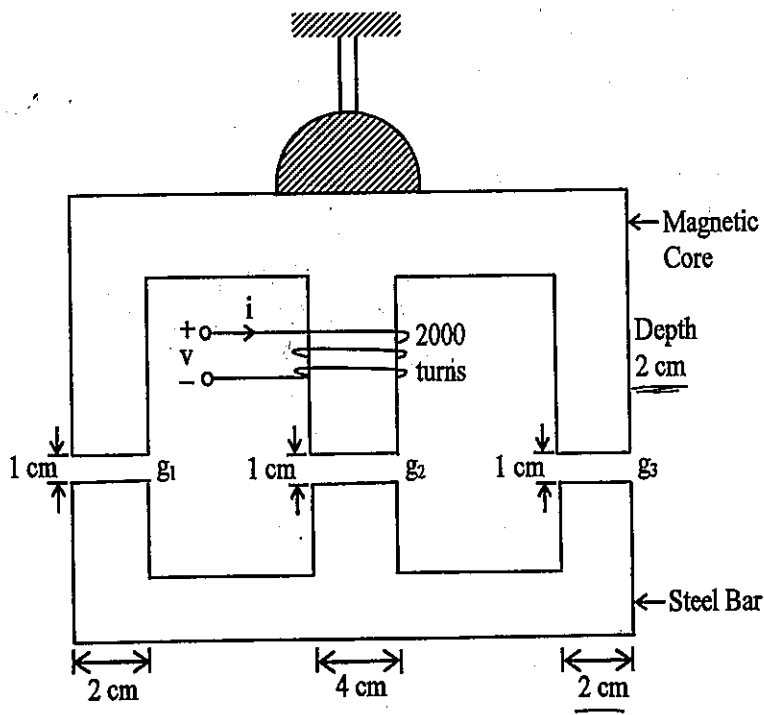

Figure 1
2. An electromagnet lift system shown in Figure 1 is excited by a coil of 2000 turns. The dimensions of the magnetic system are shown in the figure. The relative permeabilities of the magnetic core and the steel bar can be considered to be infinitely high. The permeability of free space is given as $\mu_0 = 4\pi \times 10^{-7} \text{ H/m}$.